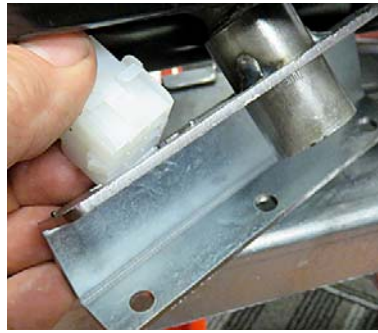

Figure 40
43. Insert the 9-pin female connector into the dispose assembly (see Figure 40).